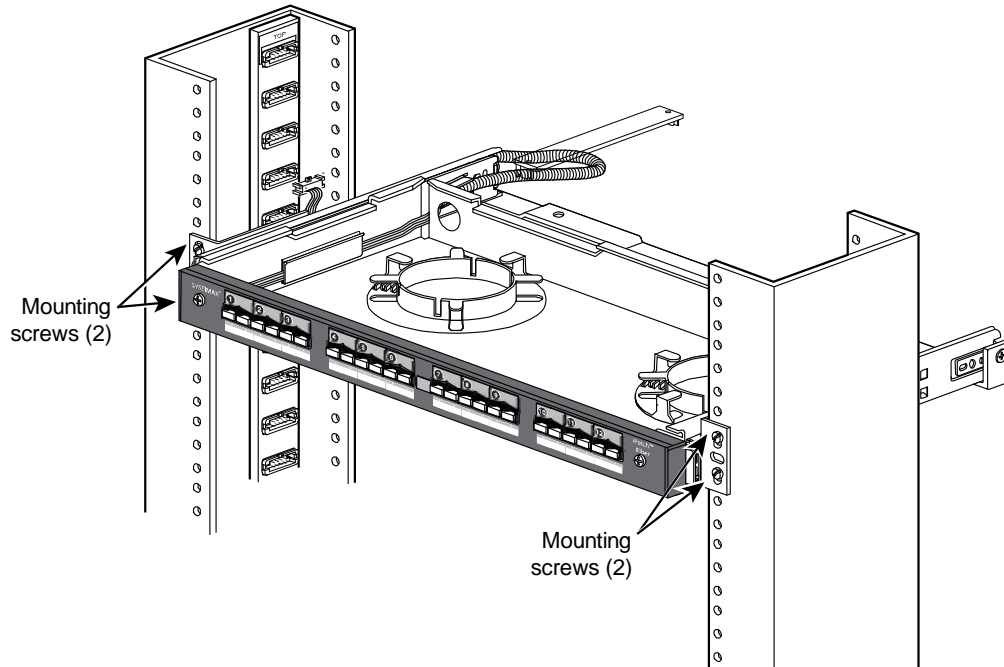

Figure 3 Installing the Shelf in the Rack
1. Mount the shelf in the rack using the four #12-24 x 3/8 inch screws provided (Figure 3).